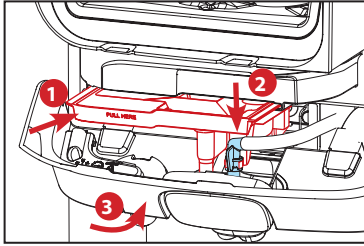

Fig.6
4. The display will now show: **REINSTALL MIXING TRAY**, slide the mixing tray into its original position (there will be two audible beeps when it is installed correctly), connect the outlet tube, and close the water treatment panel (there will be two more audible beeps). The dispenser will automatically continue to next step. (See fig.6)